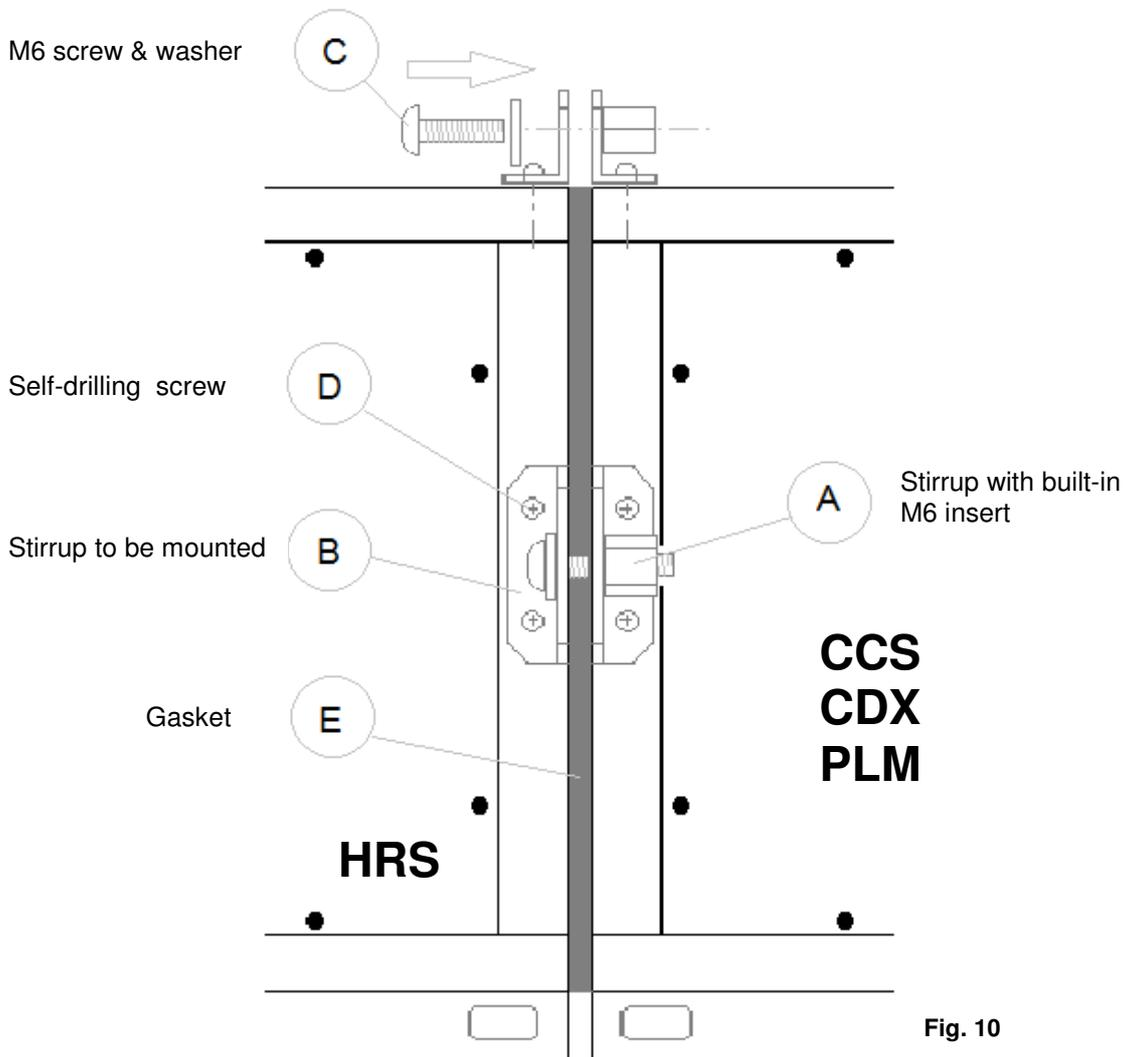

Fig. 10
- Sections are already equipped with a series of perimetric L stirrups with built-in M6 insert; they have to be coupled to free stirrups to be mounted on the unit in symmetrical positions, by using self-drilling screws kit (**fig. 10**). **This operation must be carried out before installing the unit.**
- Previously apply the gasket (supplied apart to be mounted) on the side of the external section to be coupled to the basic unit (**fig. 10**)